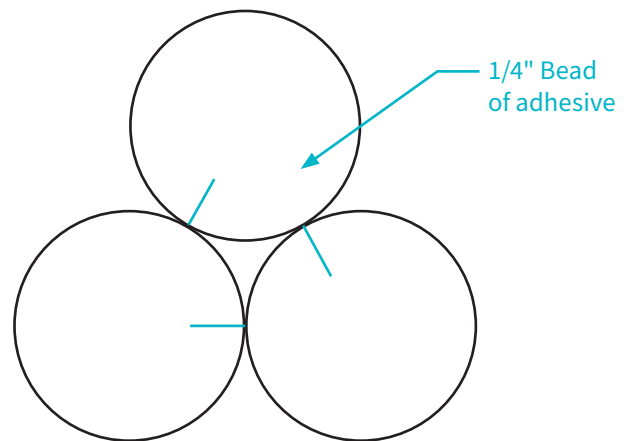

Figure 3: 3 round baffle pattern with adhesive lines
1. Position 3 round hanging baffles against one another and at the top of the baffle, with a marker make a small mark atop the baffle where the baffles meet. See **Figure 3**.
7. Evenly dispersed, directly in the center of each baffle insert 2 corkscrews for clusters of 2–4 baffles, 3 corkscrews for 5–7 baffles, 4 corkscrews for 8–10 baffles, 5 corkscrews for 11–13 baffles, etc. See **Figures 3–7**.